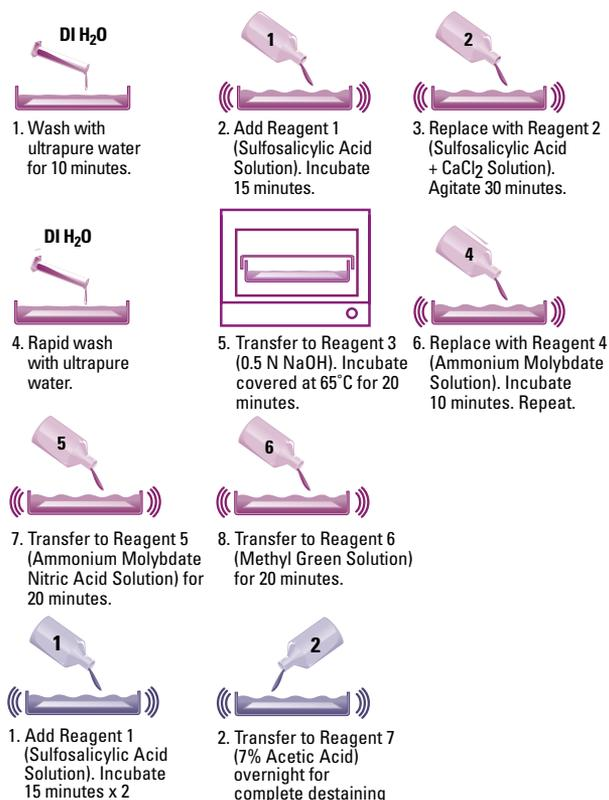

Figure 33. Thermo Scientific GelCode Phosphoprotein Stain protocol.
- Easy-to-follow protocol yields results in three hours (Figure 33)